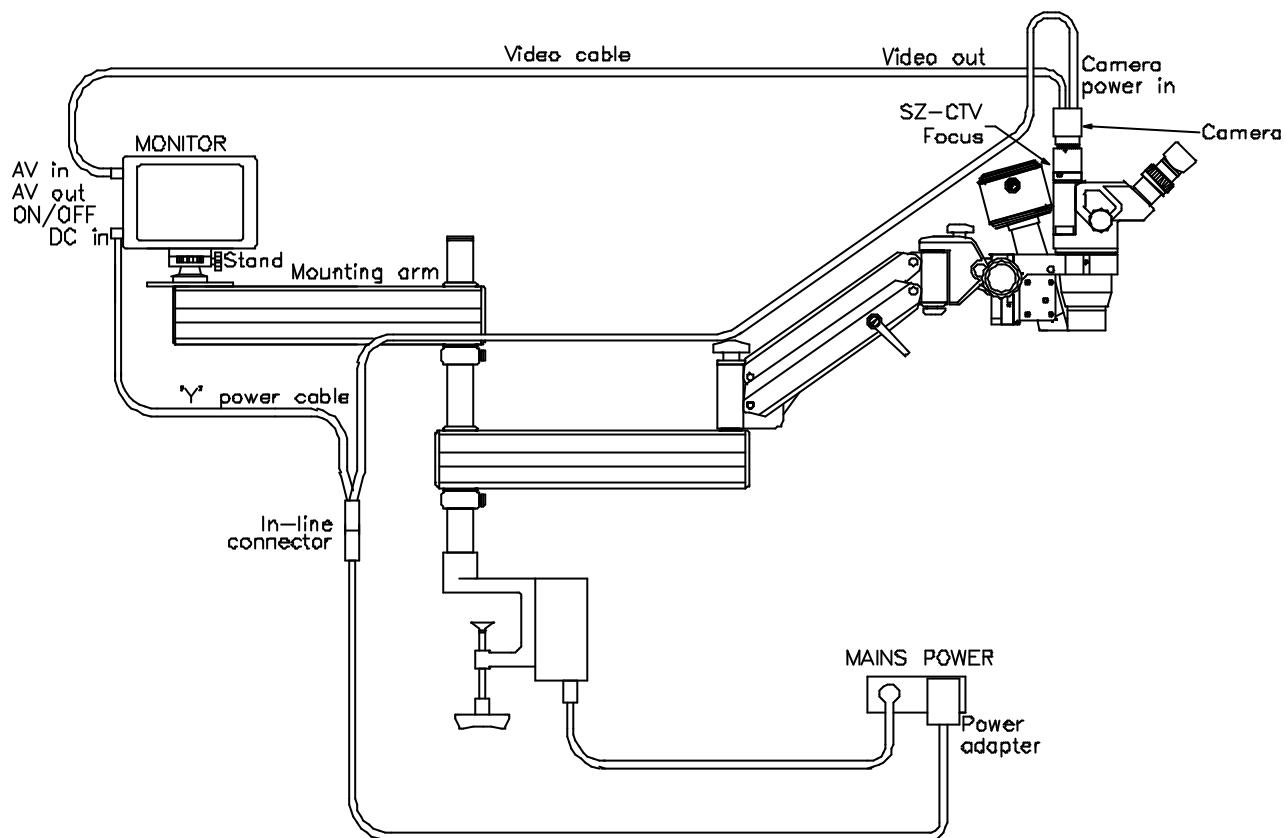

Figure 11 Scan Optics SO-111 Video System Schematic
8. Attach the 'Y'cable to the power adapter cable using the in-line connectors. Connect the small right-angled power plug to the monitor DC in socket and the large straight power plug to the camera DC in socket. Plug the power adapter in to a mains socket using a mains plug adapter as necessary. Note that the power adapter will automatically detect mains voltages between 100 and 240V, 50-60Hz. Refer to figure 11.
9. Connect the Monitor (AV in) to camera (video out) using the video cable. Switch the monitor on. Refer to figure 11.
13. If the picture on the monitor is unfocussed, adjust focus at rear of the SZ-CTV attachment below the camera. Refer to figure 11.
The optional assistant microscope allows an observer to view procedures under magnification within close proximity of the operating field. In order to fit the assistant microscope, first attach the mounting bracket provided to one side of the microscope head using the four M5x10 socket head cap screws provided. Then insert the mounting arm and secure it with the locking pin. Refer to figure 11.
The assistant microscope may be configured to mount on either the left or right side of the main microscope head. Figure 11 shows the head configured to fit on the right hand side of the microscope head. In order to swap the mounting configuration follow figures 12a and 12b shown.